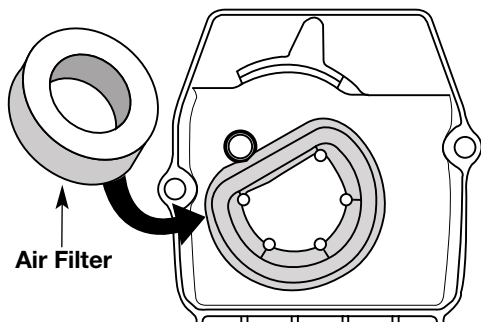

Fig. 25
2. Remove the air filter from behind the air filter/muffler cover (Fig. 25).
6. Replace the air filter in the air filter/muffler cover (Fig. 25).